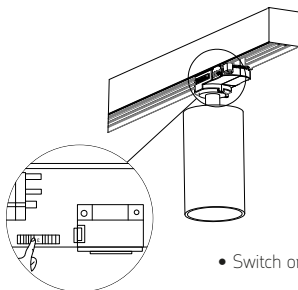

Fig. 3
- Turn circuit adjustment knob (Fig. 3) to correct circuit (1,2 or 3) for powering spotlight.